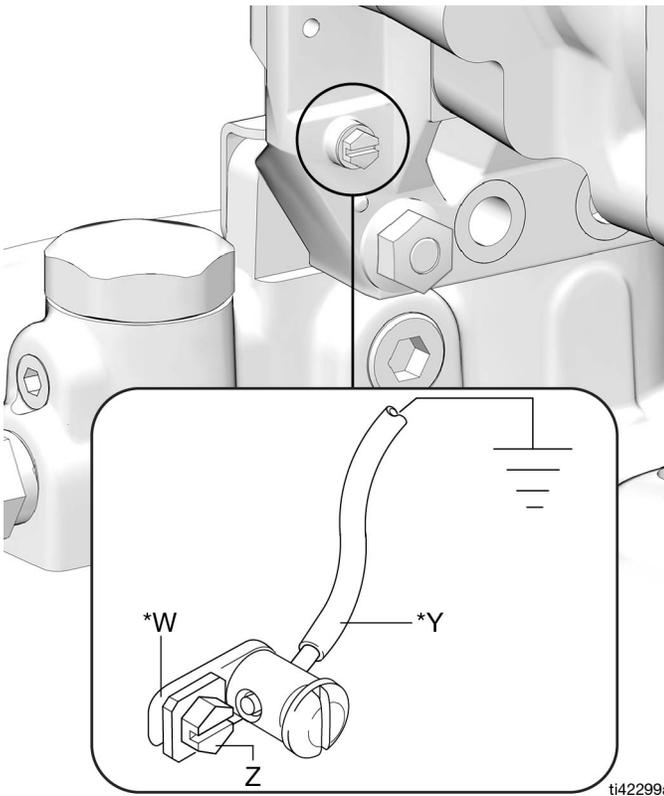

FIG. 1
To ground the pump: Remove the ground screw (Z) located on the back of the gear box and insert it through the eye of the ring terminal (W) at end of ground wire (Y). Fasten the ground screw (Z) back onto the pump and tighten securely. Connect the other end of the ground wire (Y) to a true earth ground (FIG. 1). To order a ground and wire clamp, order Part 222011.